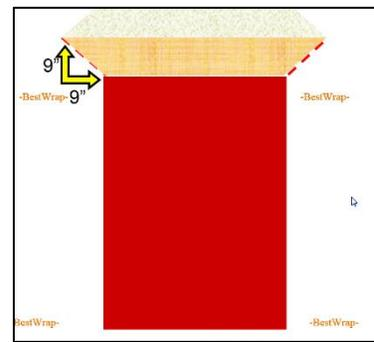

Fig 3
3. Cut WRB on exterior at header in a 45° angle moving outwards and upwards to a location 9" above and 9" to the outside of the RO. Lift the newly created flap and secure with tape (Fig 3)